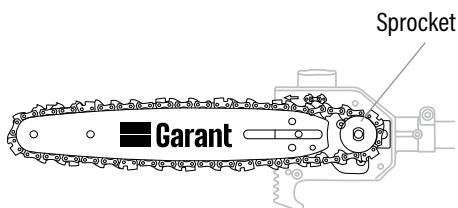

Fig. 8B
2. Place the saw chain around the sprocket with the cutting teeth corresponding to the direction of the symbol on the housing (Fig. 8B).